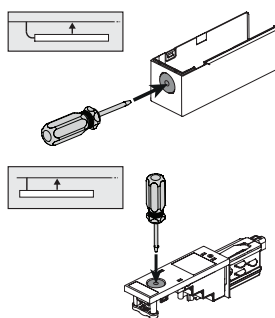

Figure 2
2. Using your Phillips Screwdriver, remove the knock out for the wire entry point for the Smart Track Live End Feed. **Figure 2**